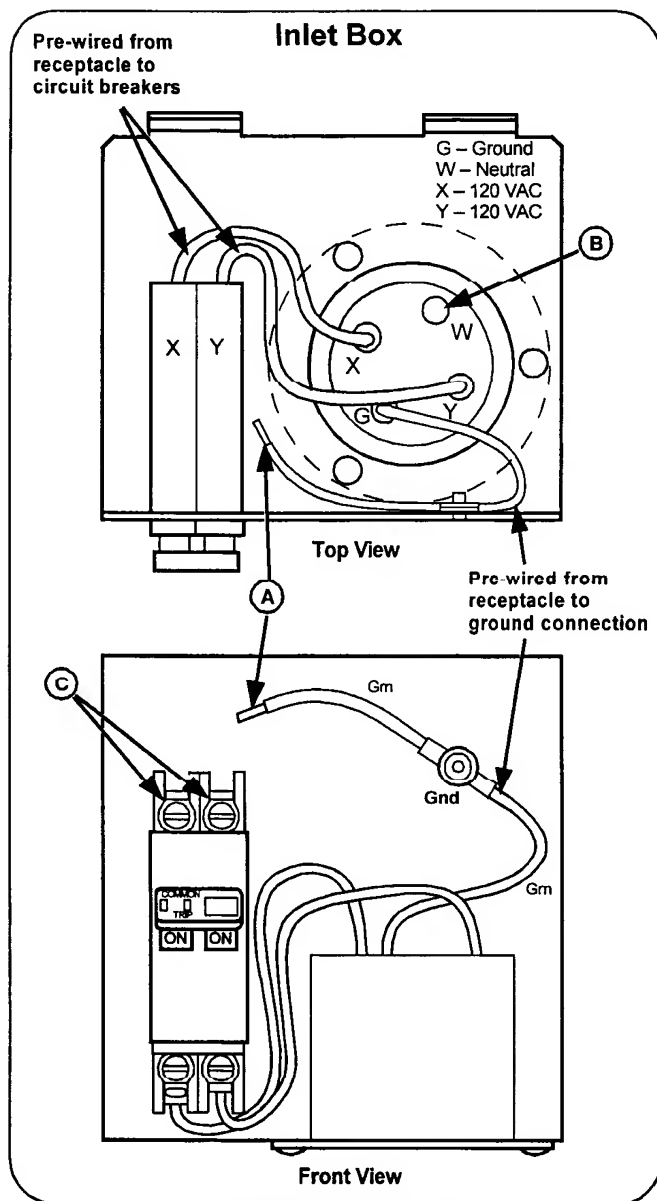

Figure 6. Inlet Box Wiring (Prewired)
11. Connect the ground wire from the junction box to the Green ground wire (A) in the inlet box (secured to the front panel of the inlet box) with an appropriate wire terminal. Refer to Figure 6.
12. Connect the neutral wire to the open receptacle "W" terminal (B) in the inlet box.
13. Connect the two load wires from the junction box to the circuit breakers (C) in the inlet box.